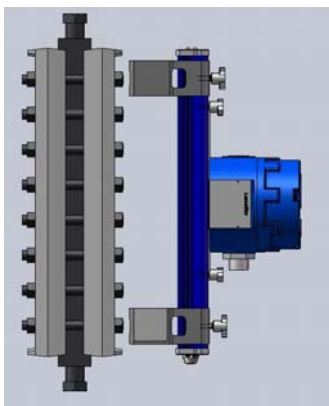

Figure 10
- 1) Align EFI Levelite™ assembly with rear (side with bolt heads) of gauge. Loosen bracket thumb nuts and adjust the position of the brackets to line up with their respective bolts on the gauge as shown in Figure 10. Tighten the thumb nuts to secure in place. When possible, use the 2nd set of bolts from the edge of the cover plate. Note that all one-section size 7 models and smaller will require the power supply to be remote mounted.